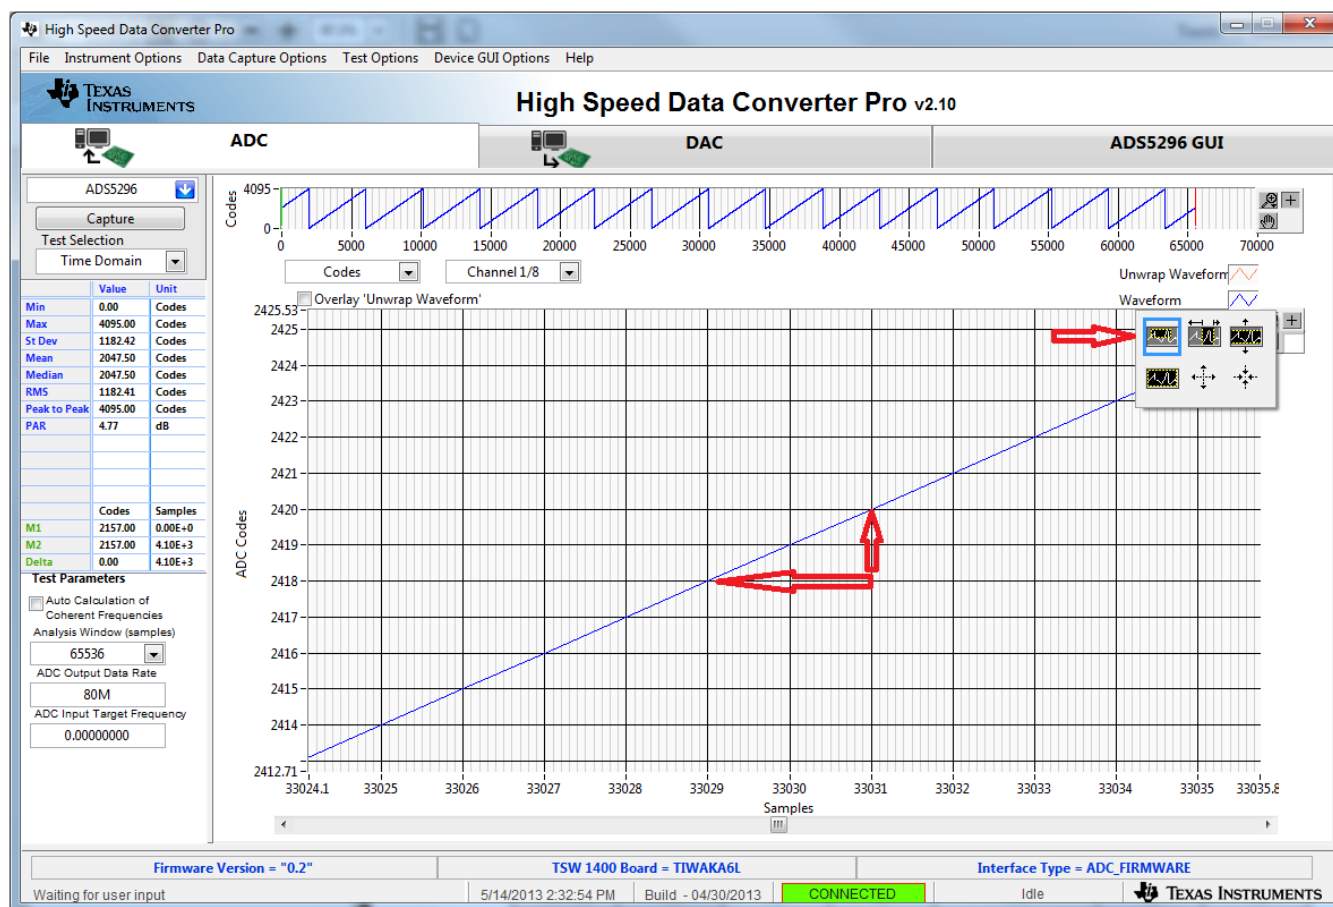

Figure 35. Zoom on RAMP Capture
5. Zooming into the waveform, as shown in Figure 35, is recommended to ensure that the RAMP waveform increments 1 ADC code for each subsequent sample.